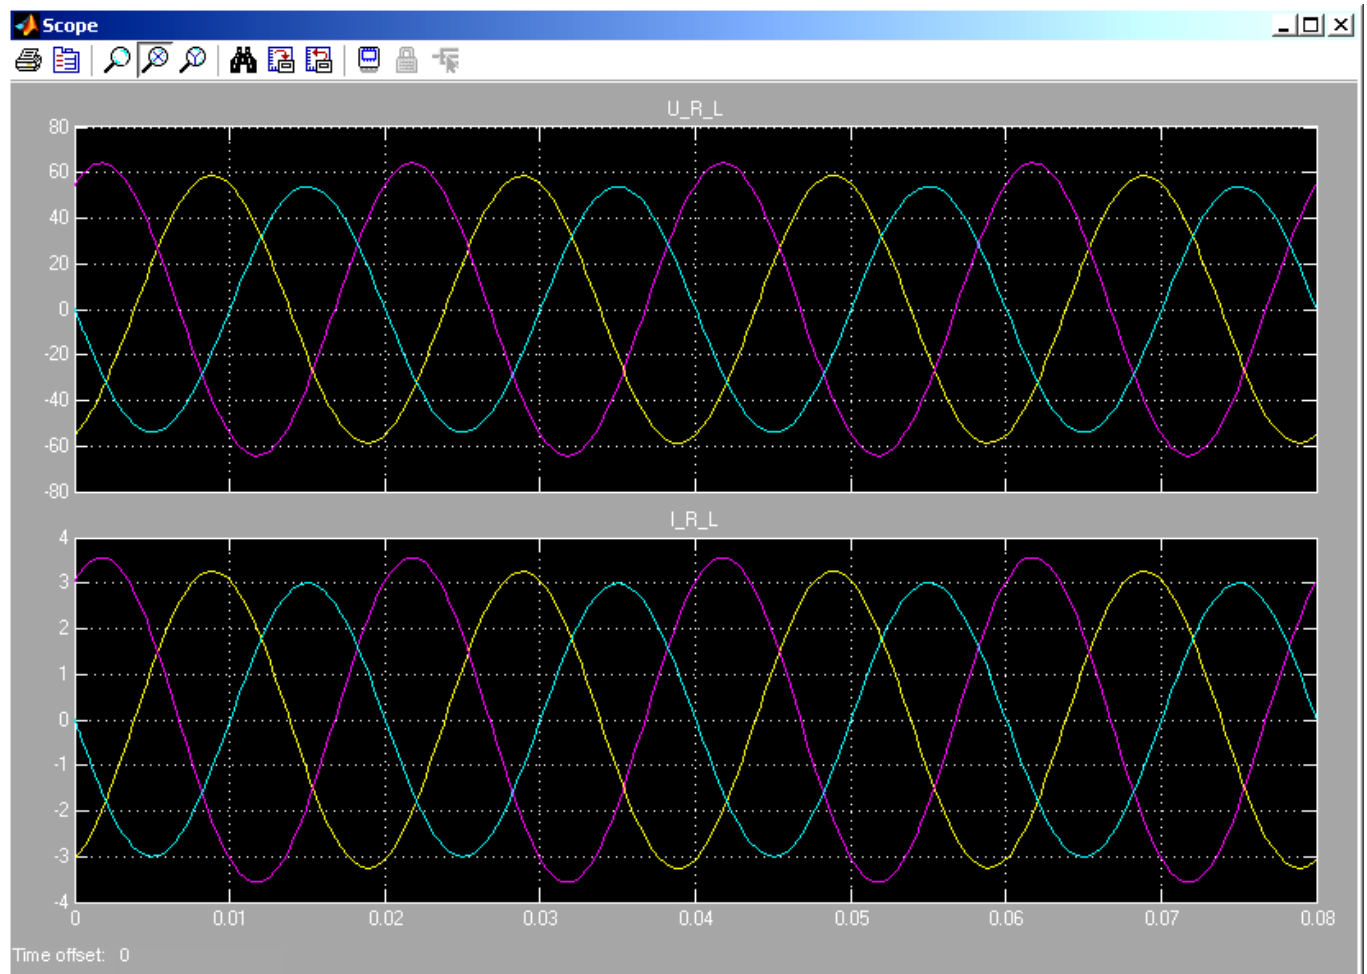

Fig.8.4. An example of an oscillogram of voltages and currents in the Scope window in emergency mode
6. Show the teacher the oscillogram of voltage and current in the Scope window before the accident and in emergency mode (Fig.8.4 example of the oscillogram of voltage and current in the Scope window in emergency mode):